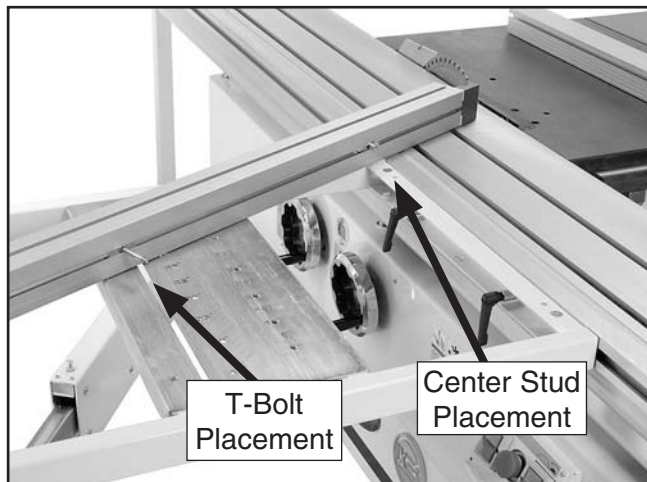

Figure 30. Crosscut fence placement.
- 26. Position the center stud and the T-bolt of the crosscut fence into the placement holes shown in **Figure 30**.